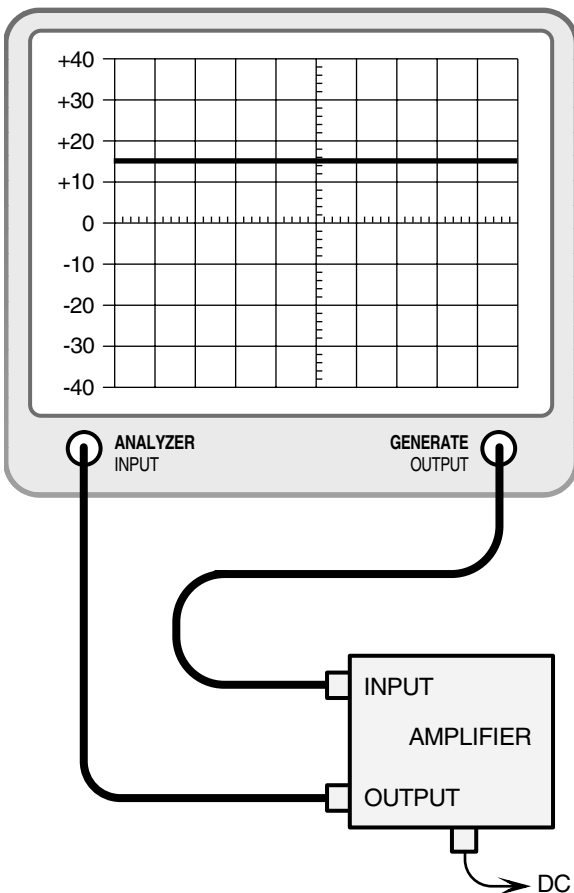

Figure 5: Measuring amplifier gain.
- 3) Remove the female barrel connector and connect the equipment as shown in figure 5.